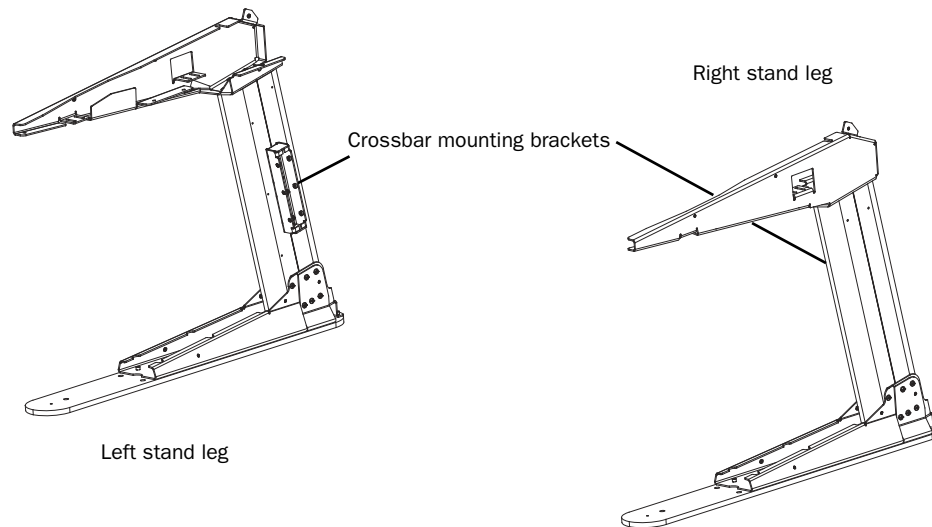

Figure 7. D-Control stand legs positioned with crossbar brackets facing each other
**1** Place the right and left leg assemblies upright, and at the approximate width of the rear crossbar assembly. Position the legs so that their crossbar mounting brackets are on the insides of the legs, facing each other as in Figure 7.